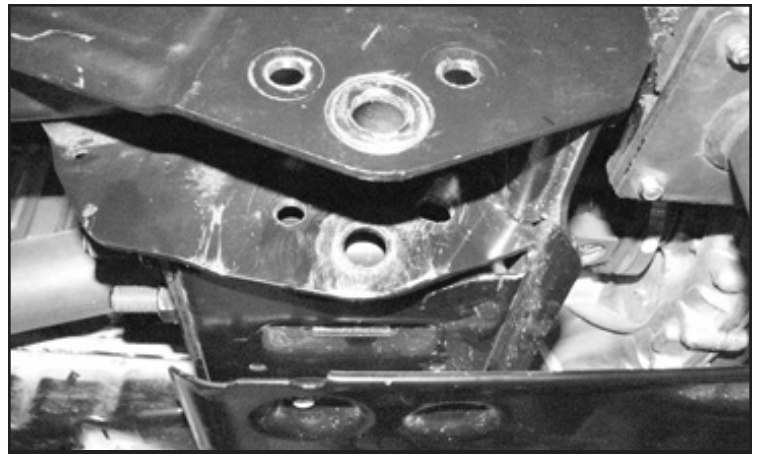

FIGURE 29 - STEP 33
33. Remove the factory crossmember and skid plate that is mounted between the factory radius arm pockets. Retain Hardware. **SEE FIGURE 29**